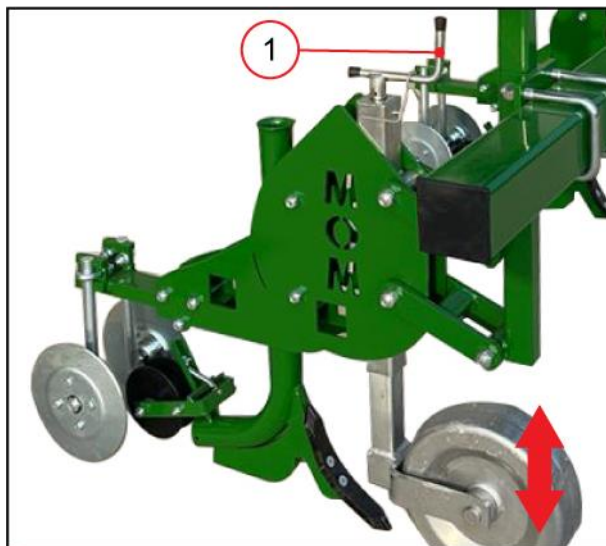

FIG. 7
Adjust according to the works to be performed and soil type through the handle pos.1 FIG. 7. The manufacturer positions the working tools proportionally to the machine model size.